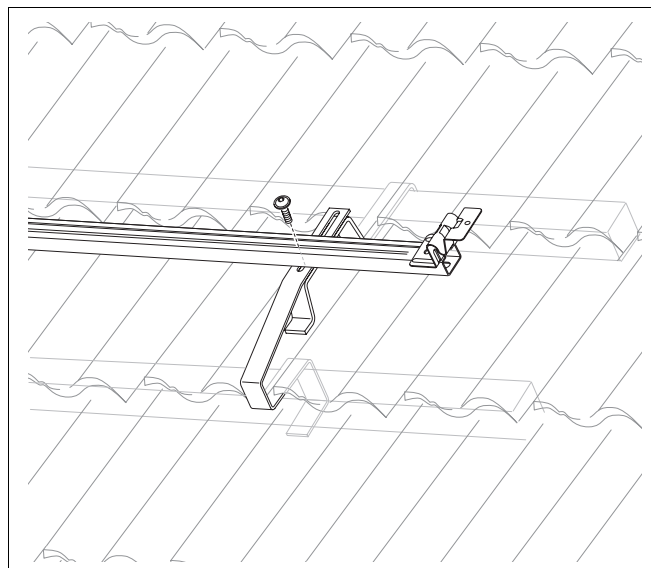

Fig. 23 Screw preassembled profile rail to roof hook and additional roof hook
- ▶ Place the profile rails that were preassembled on the installed roof hooks (Fig. 23).